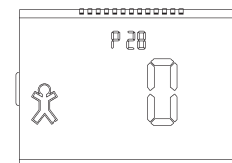

Fig. 13: Display Mode
- c. DISPLAY MODE - Screen P28 (figure 13)